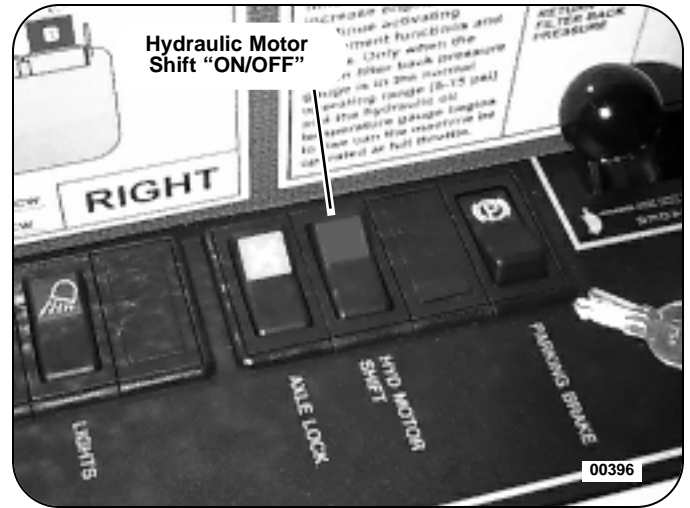

Figure 33: Hydraulic Motor Shift "ON/OFF"
9. Set the hydraulic motor shift control to the "OFF" position. See Figure 33.